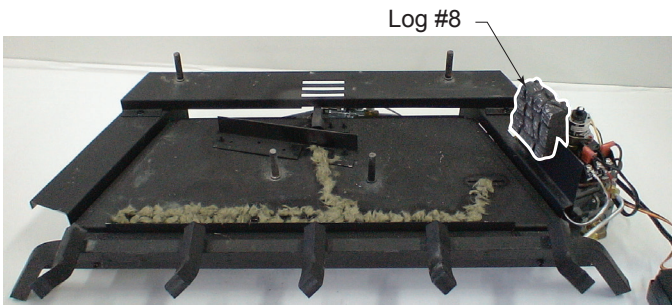

Figure 5.3 - Log #8 Placement
1. Place log #8 on right bracket next to valve by sliding grooves on sides of log into cutout on brackets. Figure 5.3.